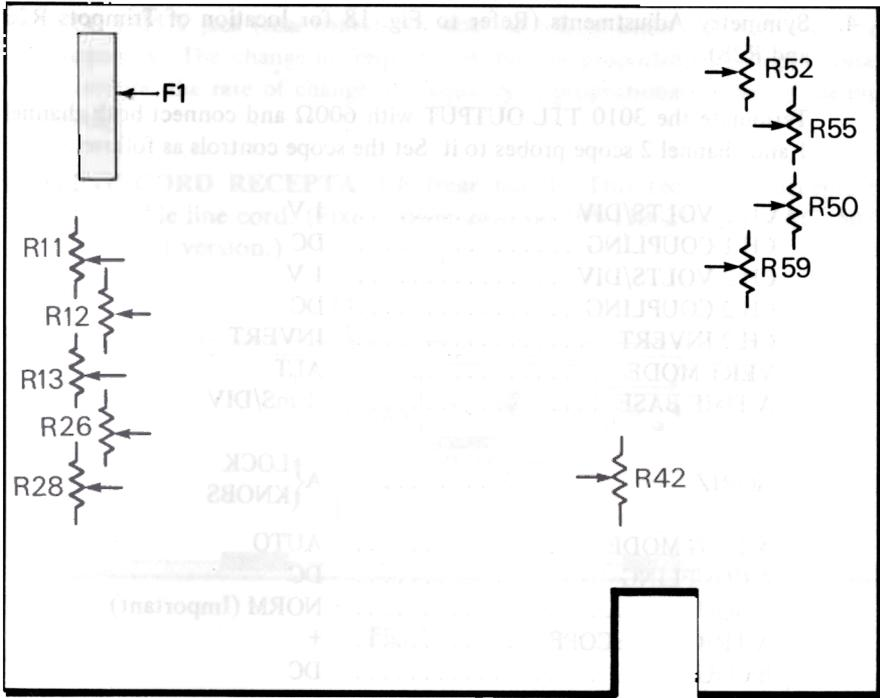

Fig. 18. Trimpot location.
Refer to Fig. 18 for trimpot location and Table for trimpot function.
4. Symmetry Adjustments (Refer to Fig. 18 for location of Trimpots R26 and R28).
3. Change fuse F1 (see Fig. 18 for location). Use $\frac{1}{8}$ A, 3AG slow blow for 105-130 volt operation, or $\frac{1}{6}$ A, 3AG slow blow for 210-260 volt operation.